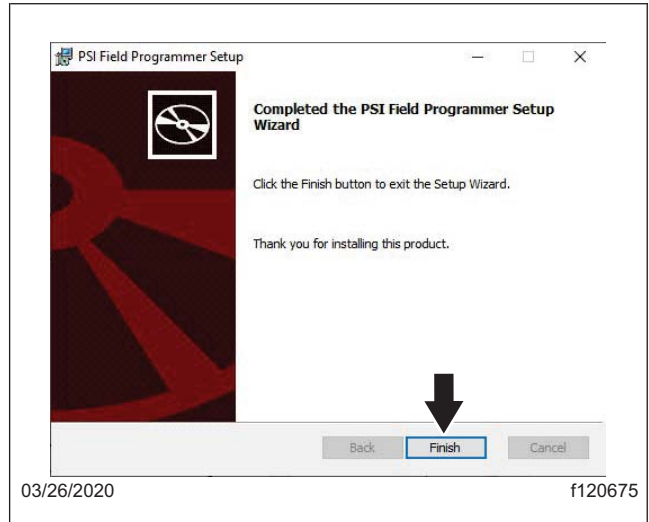

Fig. 7, Selecting Finish
11. Once the installation is complete, select 'Finish.' See Fig. 7.